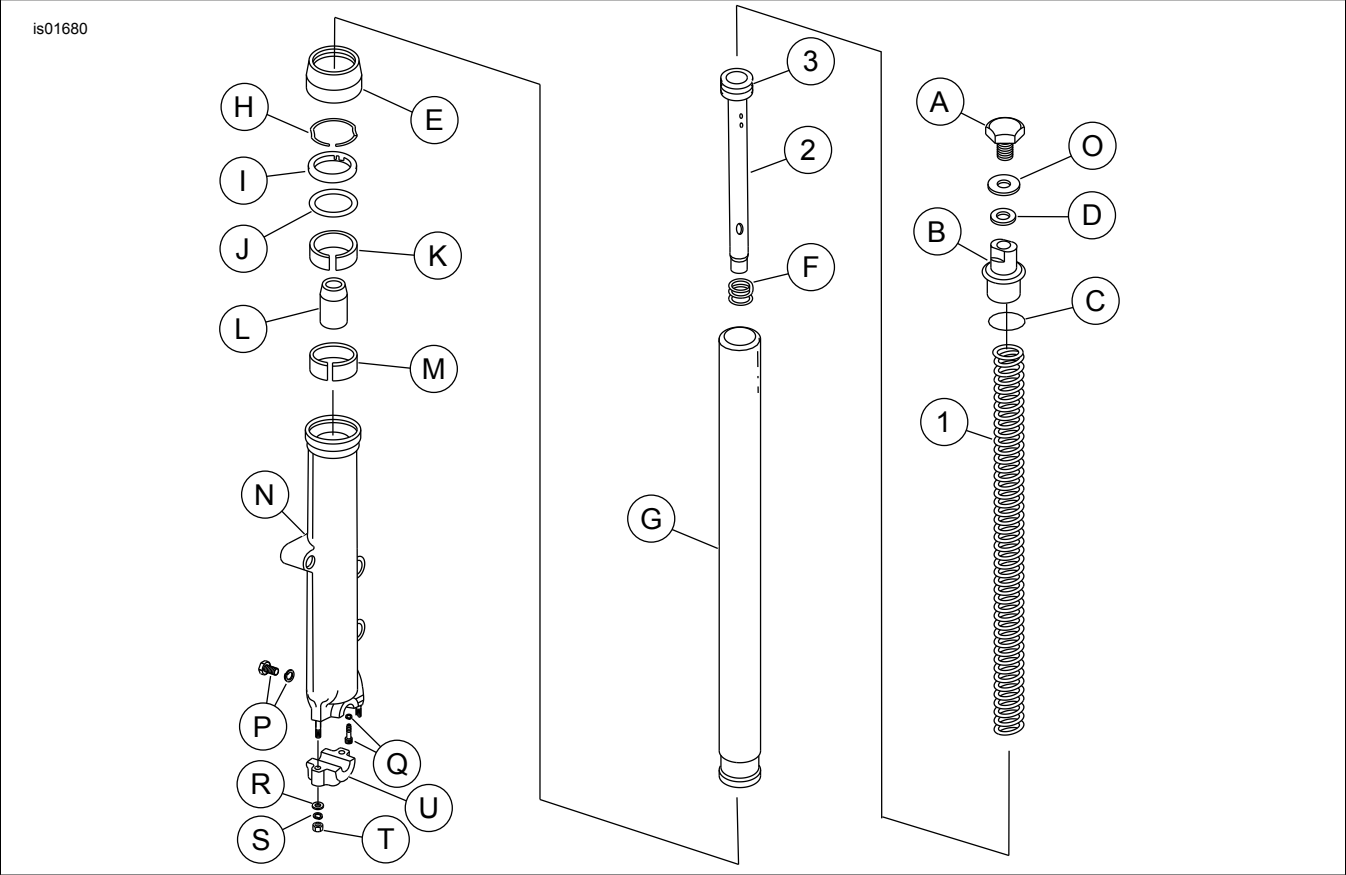

Figure 6. Service Parts for FX Softail Front Lowering Suspension Kit
See Figure 6 and Table 1.
1. See Figure 6. Remove nuts (T), lockwashers (S), flat washers (R) and axle cap from studs at end of fork slider.
Refer to Figure 6 for Steps 3-17.
Refer to Figure 6 for the following procedure.